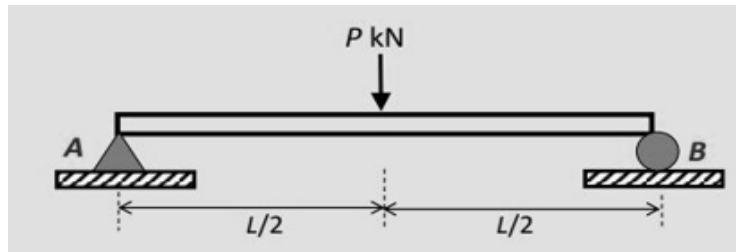

Figure 3
- (B) (i) Draw Shear Force & Bending Moment diagram of beam as shown in Figure 3. [10]